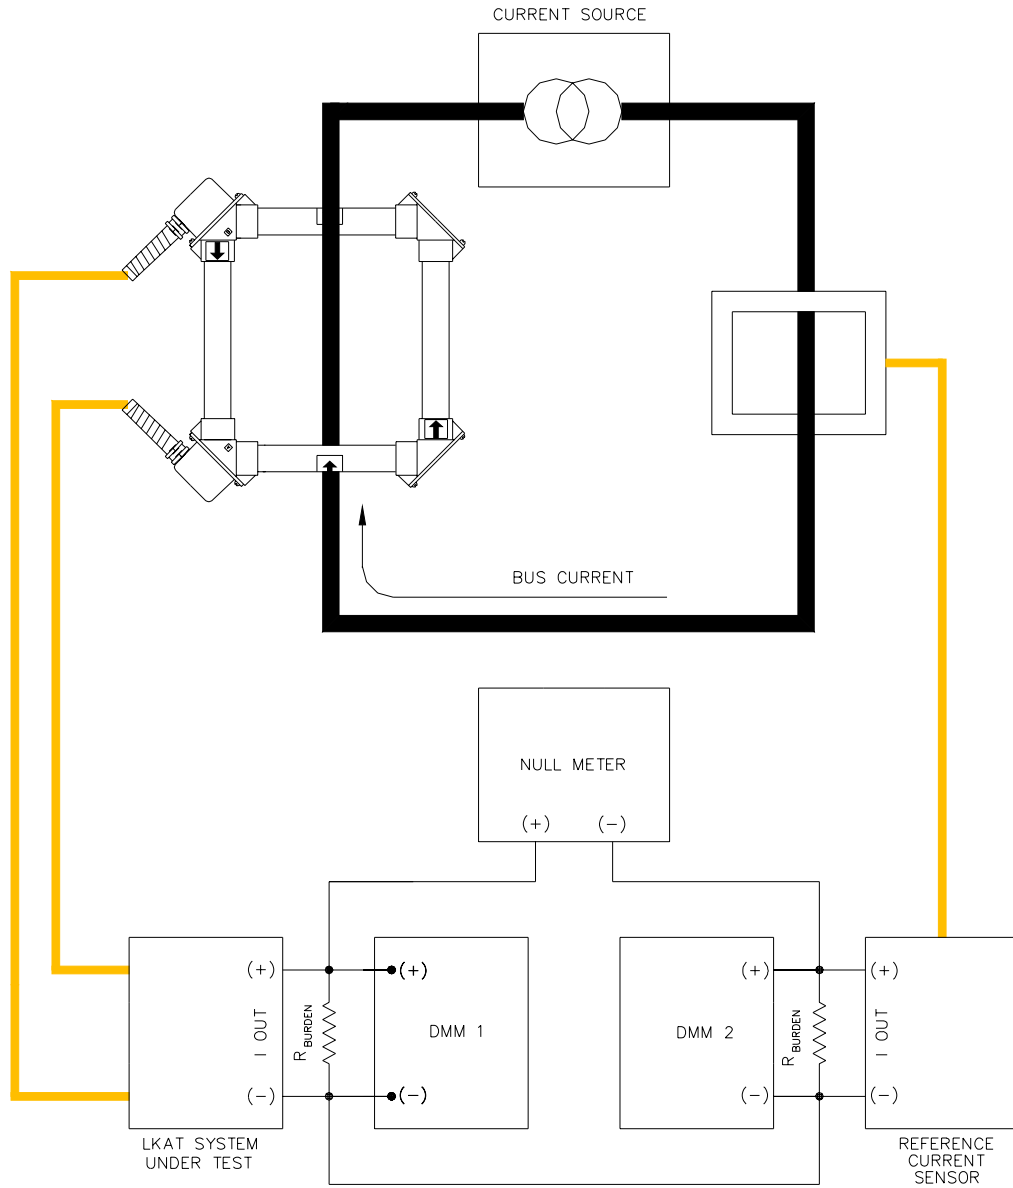

Figure 5-2.
1. Refer to Drawing 75A 108464, “Assy, LKAT Main PC Board” and refer to Figure 5-2, “LKAT Calibration”. Place the measuring head around an appropriately sized test bus.
3. Adjust Main PCB Output Gain Trimpot R52 full counter clockwise (CCW), then 5.5 turns clockwise (CW).